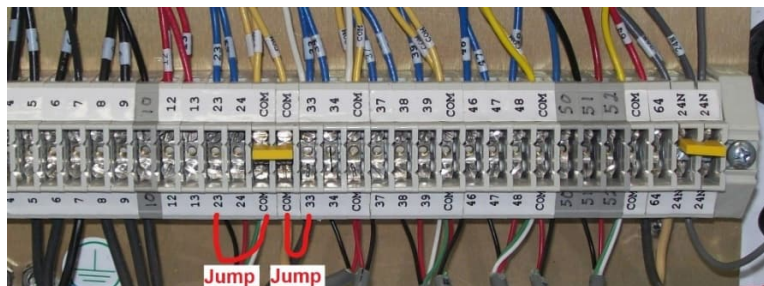

FIGURE 1 (inside of SDS main panel)
2. Inside the main panel, install two wire jumpers (See FIGURE 1):